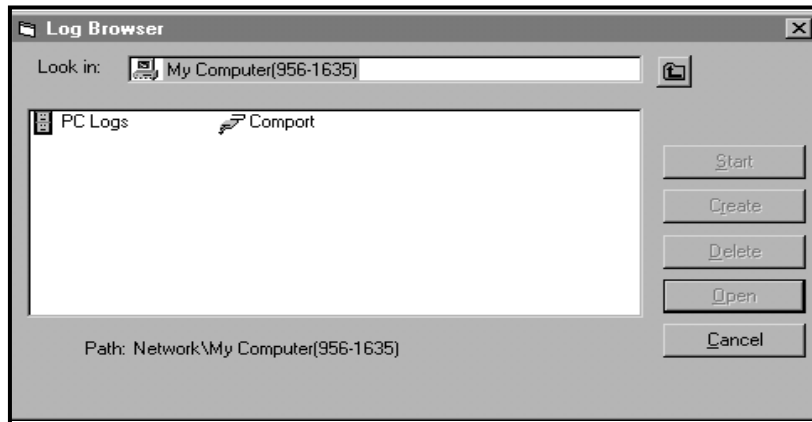

**Figure 14: Computer Selection**
- Click on the *Log Browser* option. The dialog box shown in Figure 14 appears.